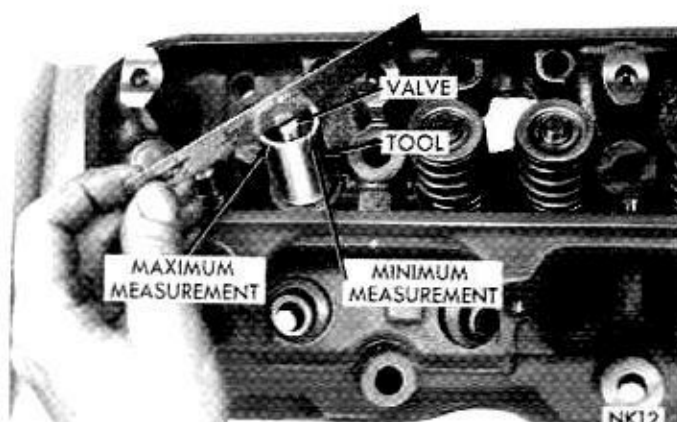

Fig. 14—Measuring Valve Stem Length
(1) Coat valve stems with lubrication oil and insert them in cylinder head.
(2) If valves or seats are reground, check valve stem height with Tool C-3968 (Fig. 14). If valve is too long, grind off the tip until length is within limits.